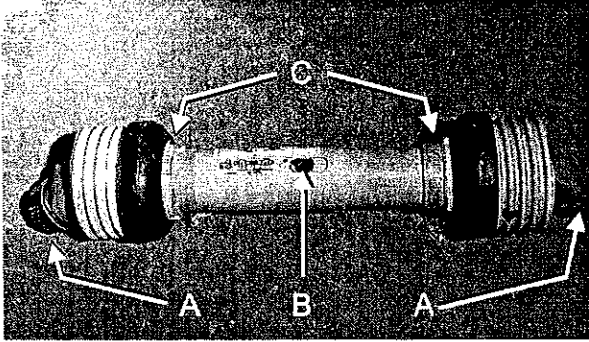

Figure 18. Driveline Shaft Lubrication Drive.
**PTO** - A well lubricated spline ensures an easy telescoping action of the PTO and will increase the life of the universal joint bearings. The plastic PTO shields require lubrication because they do not rotate with the shaft. Apply grease at the points that are shown in Figure 18. Note that it may necessary to rotate the outer tube to gain access to the spline lubrication zerk (Figure 18-B).